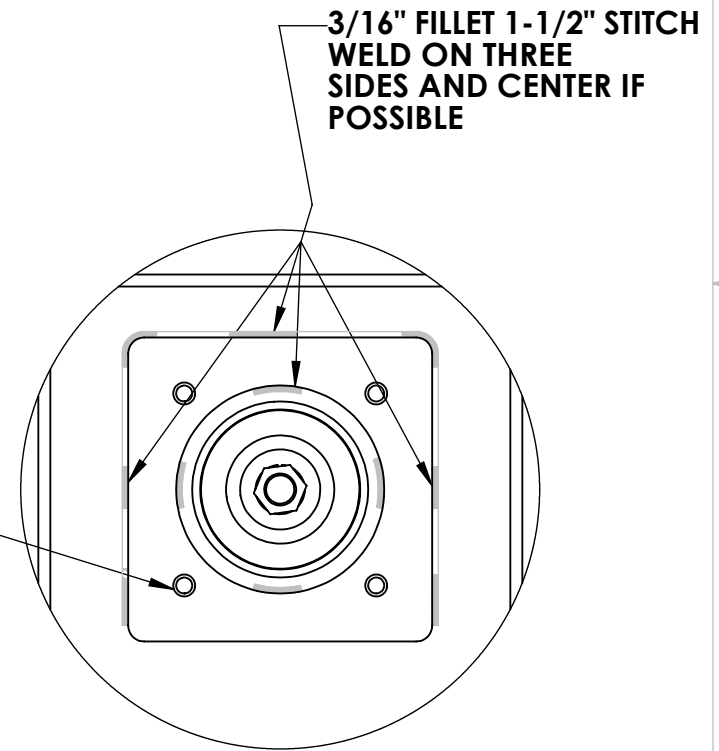

FIGURE 3. WELD
4. STITCH WELD IN THE PLATE. SEE FIGURE 3 DETAIL A FOR WELDING INSTRUCTIONS.